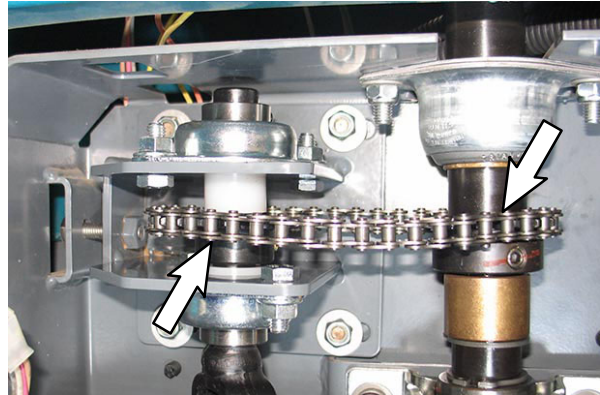

FIG. 26
27. Stretch the chain from the sprocket on the steering bearing mount assembly and around the sprocket located on the steering column tube and use the chain link to secure the chain onto the two sprockets. (Fig. 26)